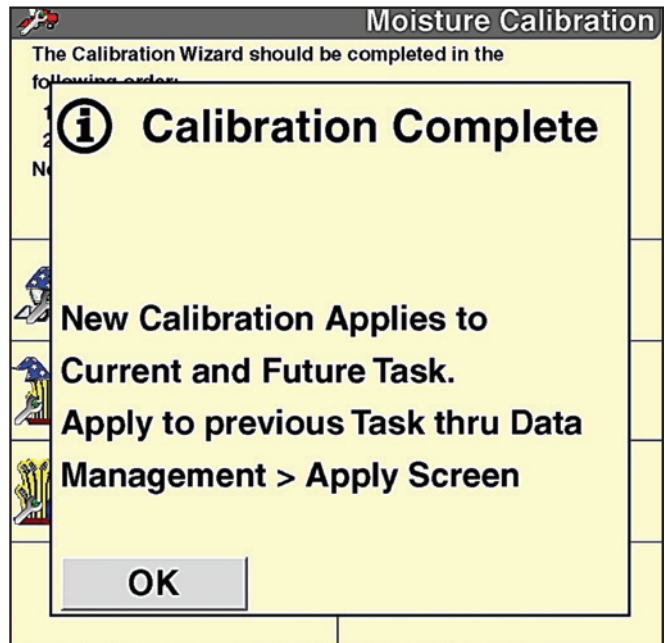

Figure 24.3
- Operator can select up to 10 tasks (loads) to apply to calibration (see figure 24.3)
- Operator can select up to 10 tasks (loads) to apply to calibration (see figure 24.3*)